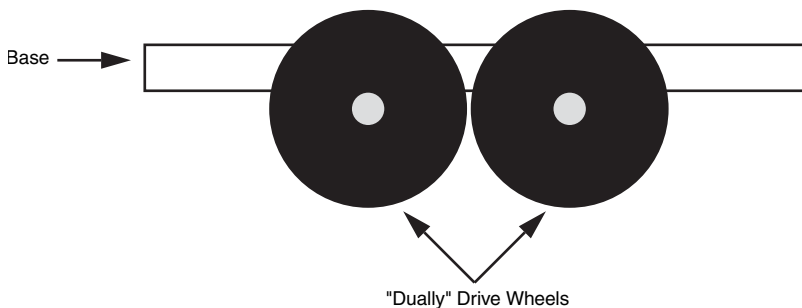

FIGURE 18-10 "Dually" wheels should be placed close to one another. If they are spaced farther apart the robot cannot steer as easily.
- If you are using multiple wheels (dually), position the wheels close together, as shown in Fig. 18-10. The robot will pivot at a virtual point midway between the two wheels on each side.